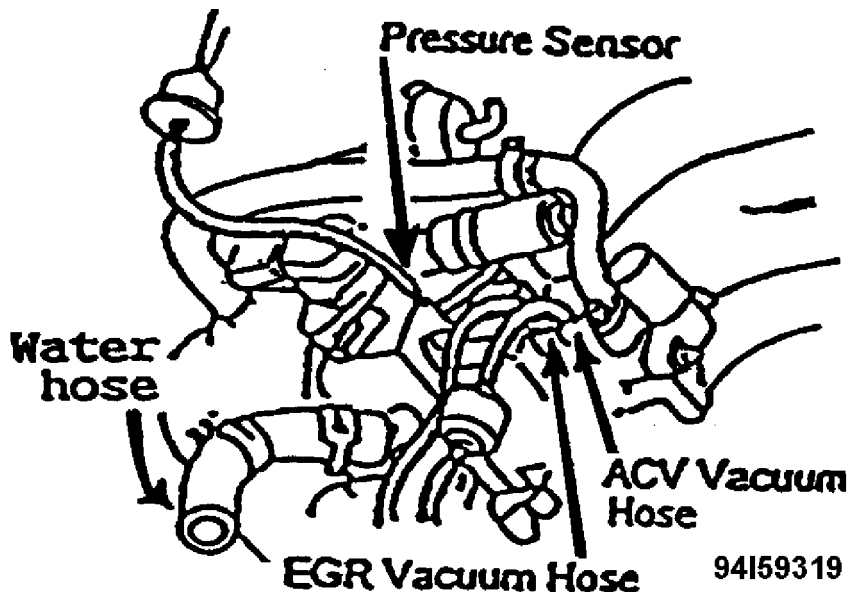

Fig. 6: EGR & ACV Vacuum Hose, Water Hose & Pressure Sensor
16. Raise the extension manifold and disconnect the following harnesses, vacuum tubes and hoses from the side indicated by the arrow (-->) only. See Figs. 6, 7, & 8.